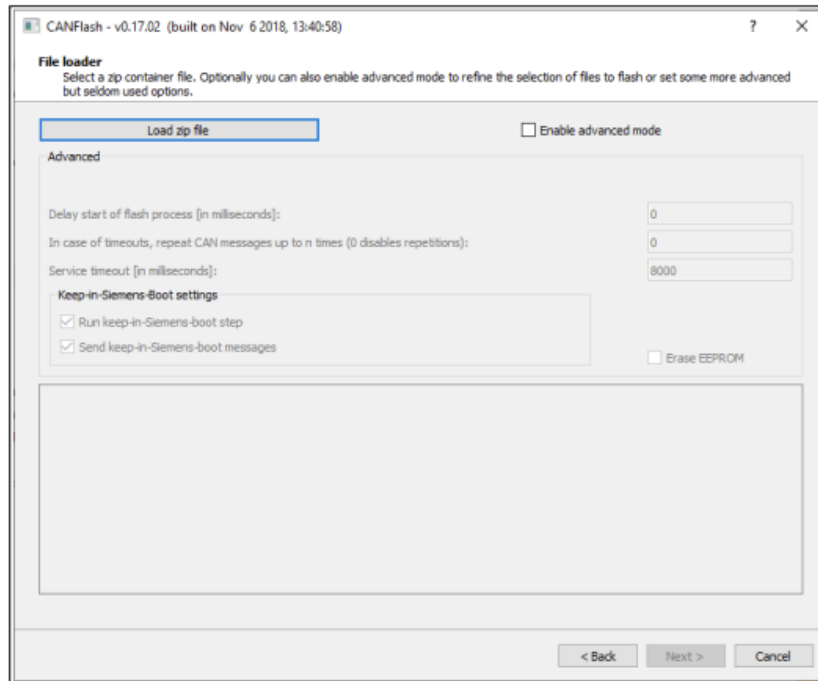

Figure 13: Load zip file in CANFlash
41. Click **Load zip file**. Select **SS100214_Official Release Bootloader 5.11.zip** (see figure 13). Ensure the knob on top of 1144289 is set to inverter ID 1. Click **Next** when complete.